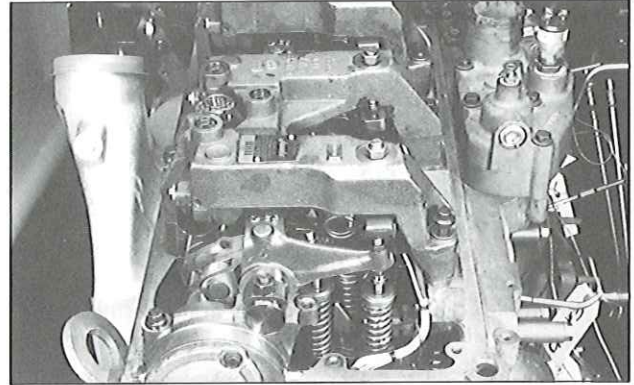

FIG. 18
5. Before tightening the engine brake hold-down bolts, move the housing from side to side and then locate the housing in the center position of the movement (see Fig. 18).